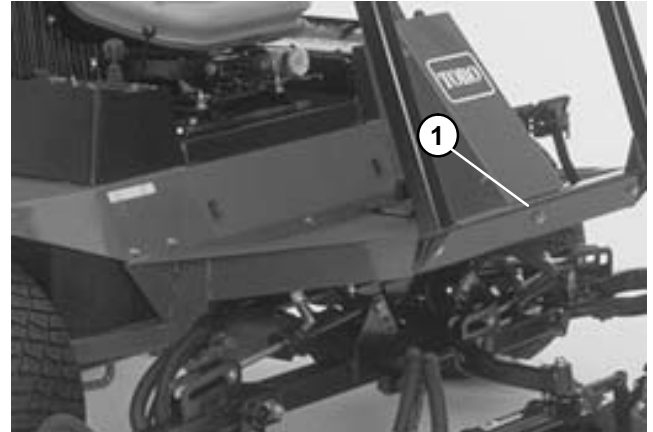

Figure 15
B. If testing forward function, connect a chain to the rear frame tie-down brackets. Connect the other end of the chain to an immovable object and remove all slack from the chain. If testing reverse function, attach chain to the center of the front frame member (Fig. 15).
3. Connect a 5,000 psi (350 Bar) gauge to traction circuit test port for function to be checked (Fig. 15).